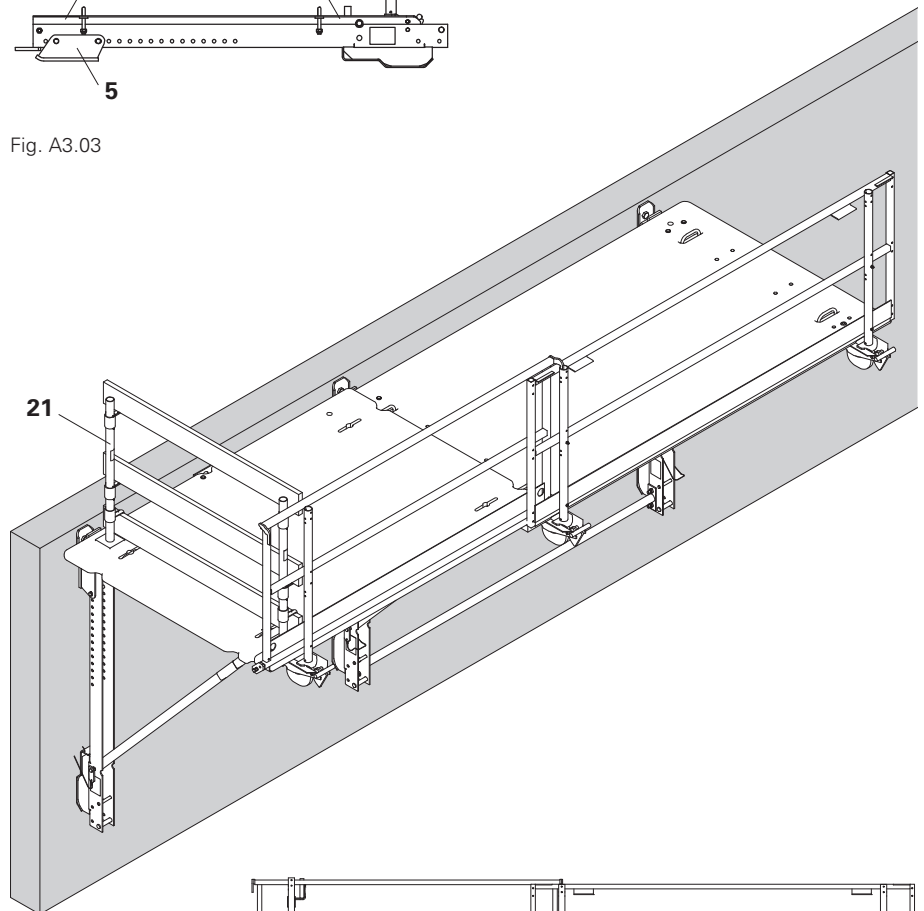

Fig. A3.04
If an end guardrail is required, 2 Guardrail Posts FBP (21) are to be used instead of the screw plates. (Fig. A3.04)
(Fig. A3.04)